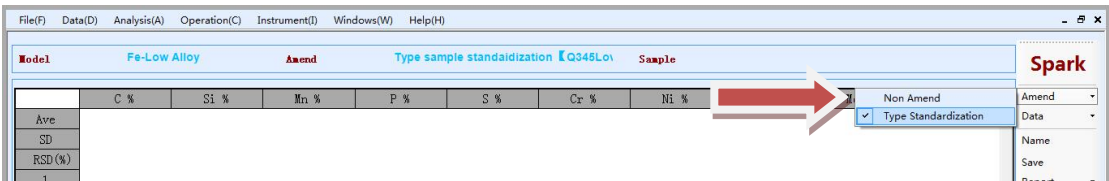

Figure 4-27 Type Standardization
Step 1 Click “Amend”- “Type Standardization” In the upper right corner, as shown in Figure 4-27: